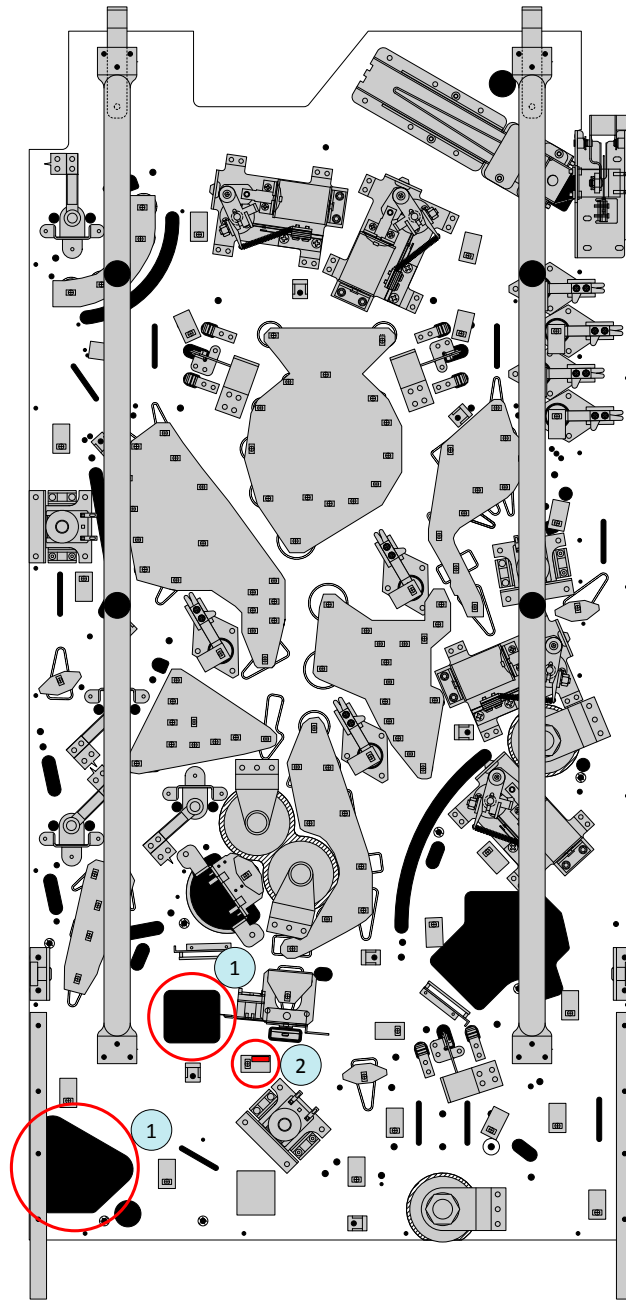

Figure E1. Castle playfield removal, illustration 1.
1) Raise the playfield and lean it against the backbox as shown in figure E1; locate the two holes circled in the illustration. Unplug the inline connectors for the mechanisms on or under the castle playfield, 6 connectors through the larger hole, 2 through the smaller hole:
2) Unplug the data cable from the red connector on single RGB LED board number 12 (circled in figure E1); this cable will remain connected to the castle playfield as it is removed (pulled through the larger playfield hole). Cut any wire ties holding this cable underneath the playfield. Push all unplugged connectors and cables up through the holes in the main playfield.